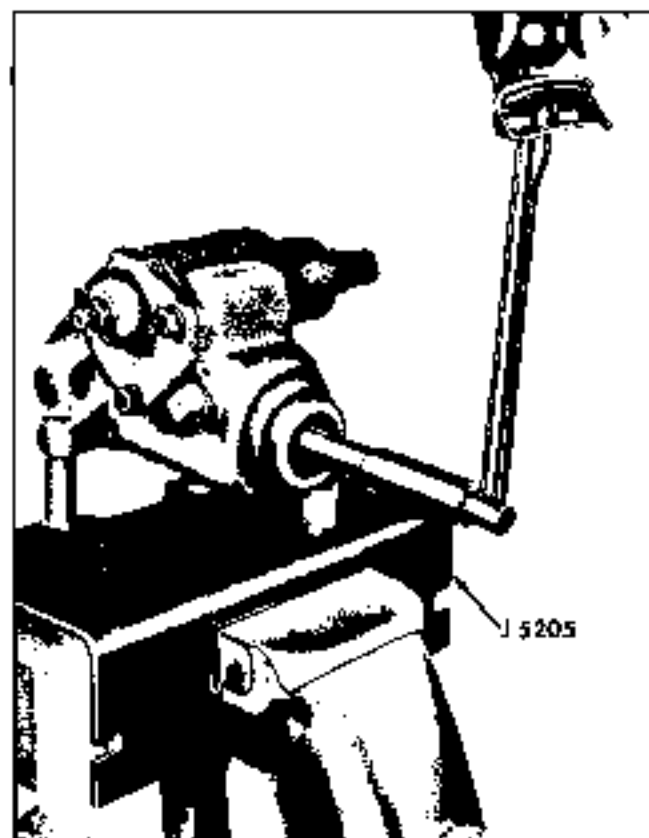

Fig. 9-55 Adjusting Worm Gear Through High Point
b. Tighten pitman shaft adjusting screw as necessary to obtain a reading of 7 lb. in. torque, in excess of total thrust bearing preload, and seal drag, when the worm gear is turned through the center (high point) (Fig. 9-55). Total thrust bearing adjustment, and seal drag not to exceed 16 lb. in. The highest reading should not fall outside 1/8 turn each side of center.